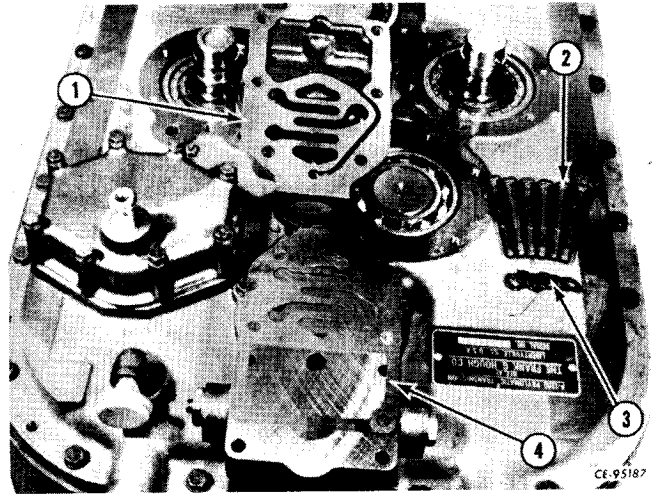

Figure 4-22
Remove directional selector valve cap screws (2, Fig. 4-22), washers (3), control valve (1) and gasket (4). For further disassembly of valve, see "DIRECTIONAL VALVE." Discard gasket.